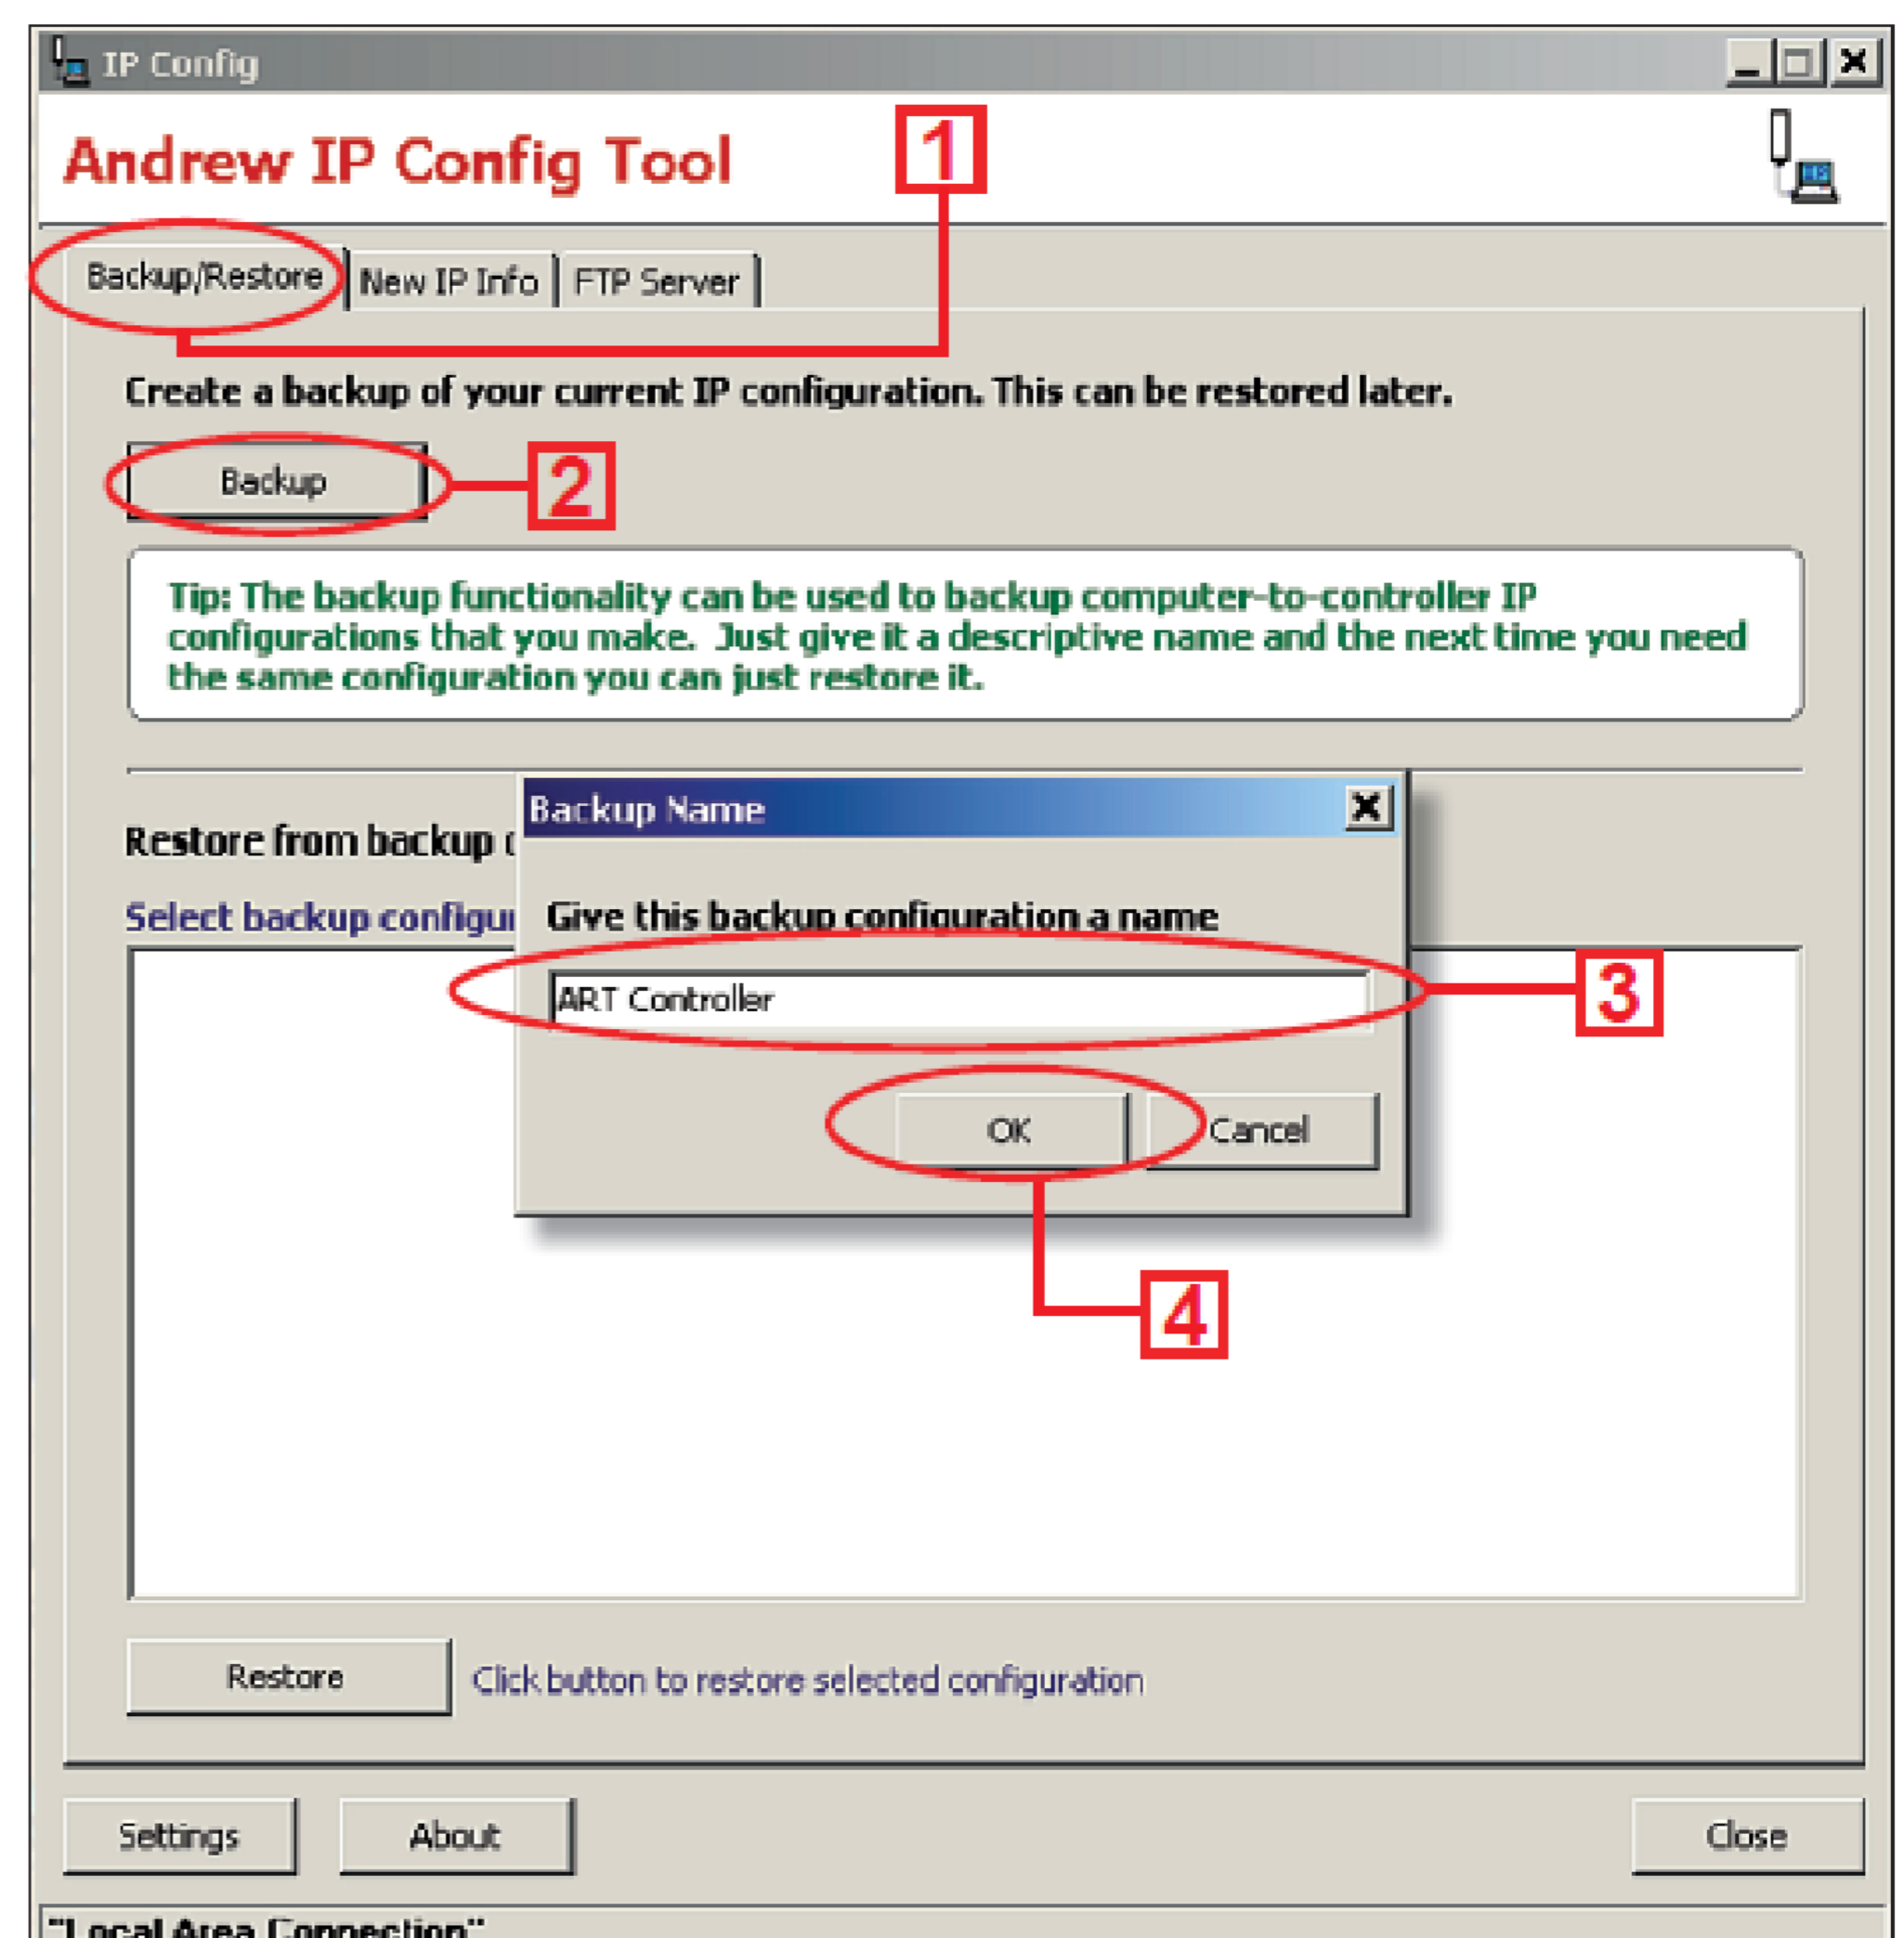

Figure 2-2. Creating A Backup File.
1. Click on **Backup/Restore** tab (Figure 2-2).